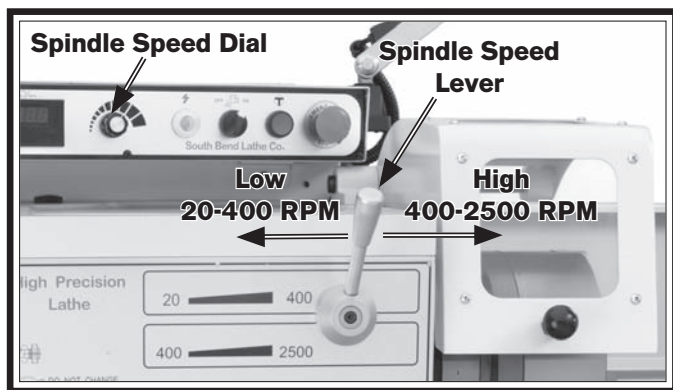

Figure 27. Spindle speed controls.
3. Turn the spindle speed dial (**Figure 27**) all the way counterclockwise to the minimum speed, and move the spindle speed range lever to the low range.